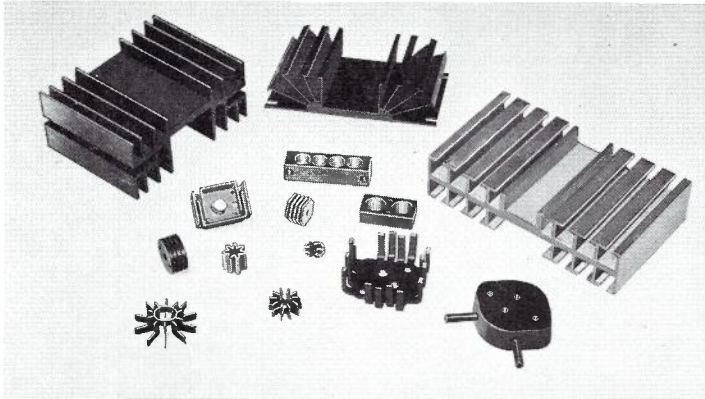

FIG. 52. A RANGE OF TYPICAL HEAT SINKS.
14.2 SHAPES. Fig. 52 shows a range of heat sinks.